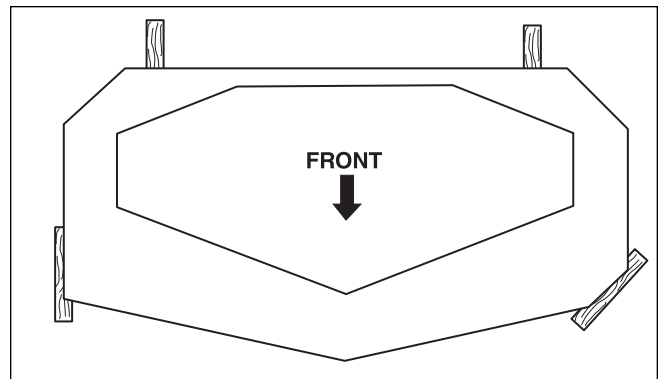

Figure 41. 2 x 4 Locations
3. Place 2 x 4 blocks under each corner of the mower deck with the 3-1/2" sides being vertical. Place a 1/4" (0,64cm) thick spacer on top of the rear 2 x 4 blocks. See Figure 41.